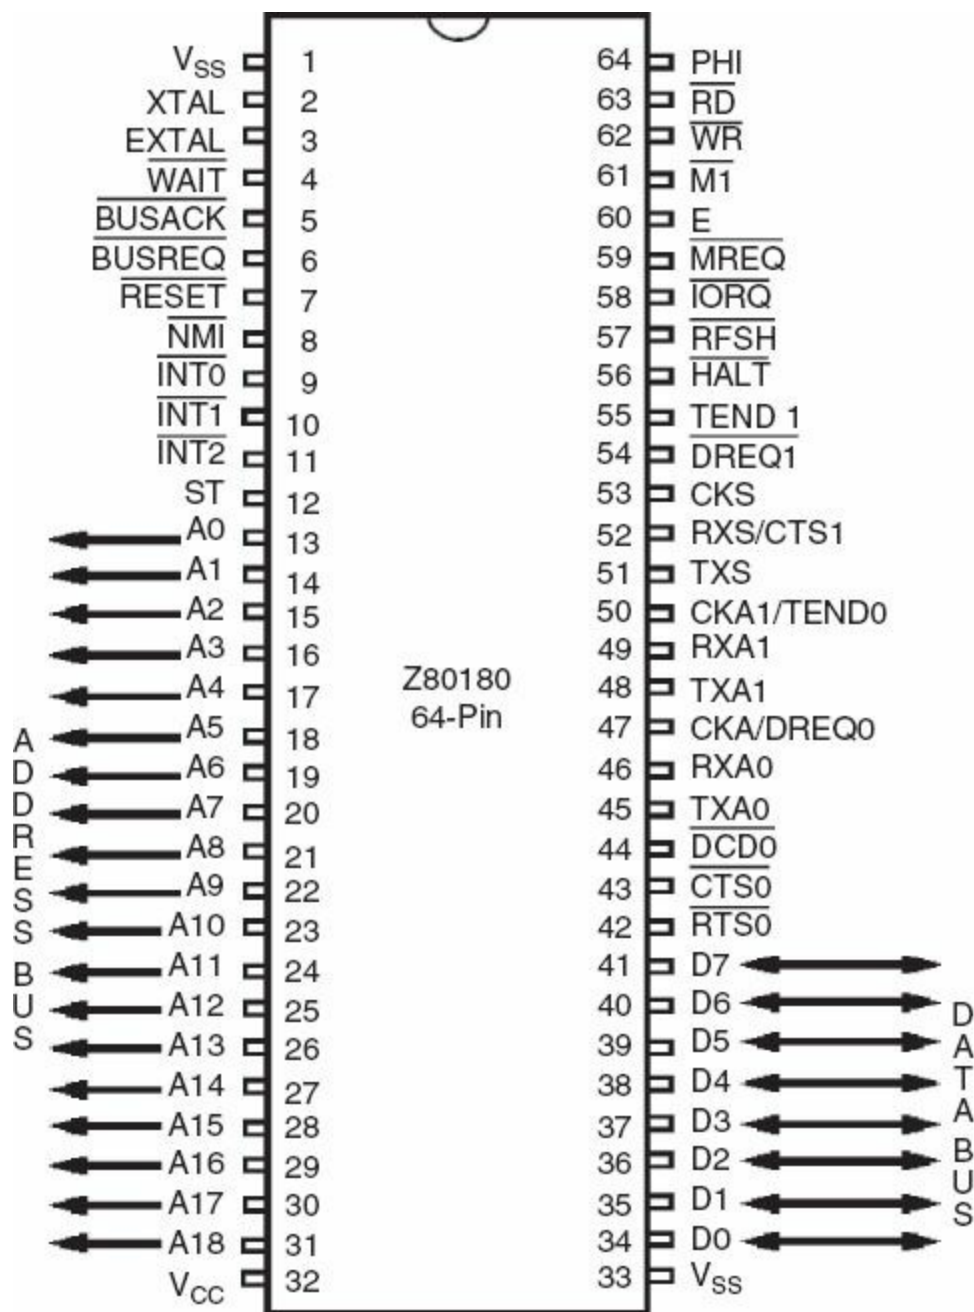

FIGURE 9.9 Zilog Z-80180, 8-bit microprocessor. (Courtesy of Zilog Corp.)
Serial input and output have been added as new features. Also, internal circuits that allow a crystal to be attached to provide clock pulses for synchronization have been added. The use of the internal crystal did not require a whole oscillator circuit to be built outside the chip. Special interrupt and memory management circuits have been added as well. In Fig. 9.9, data and address buses are identified with arrows showing signal flow.
The data bus in Fig. 9.9 also shows the eight pins labeled D_0 through D_7 and double-ended arrows. These arrows identify the fact that an 8-bit number can be inputted to the microprocessor through the eight pins. Or, conversely the processor can output an 8-bit number through the same pins. As these pins take turns sending or receiving signals, other pins, such as Read (RD) and Write (WR), identify the direction data is sent and received.